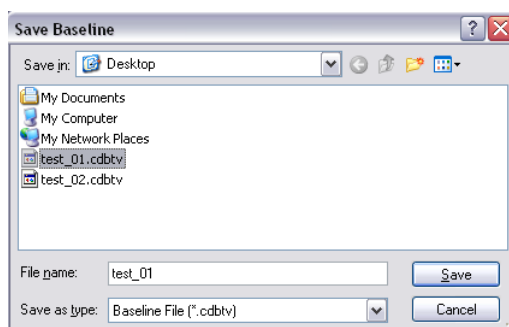

Figure 4.11 [Save Baseline] dialog box
**Note (1):** [Save Baseline...] is available only when the [Baseline] mode has been selected. ([Blank] data cannot be read or saved).
**Note (2):** The data file .cdbtv contains both baseline data and parameters.
- (2) Select a location to save the spectrum by clicking the arrow on the extreme right in the [Save in] box (in Figure. 4.11 “Desktop” is selected).
- (3) Input a filename into the [Filename] text box. The extension (the letters appearing the letters appearing after “.”) need not be entered. The output file is saved as a .cdbtv format file.
- (4) Clicking the <Save> button saves the spectrum to disk (the filename in the example is “test\_01”).